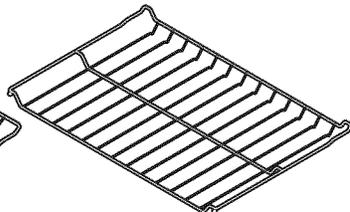

Figure 2 - Model A only
- **Offset oven rack** (Model A only - Figure 2).